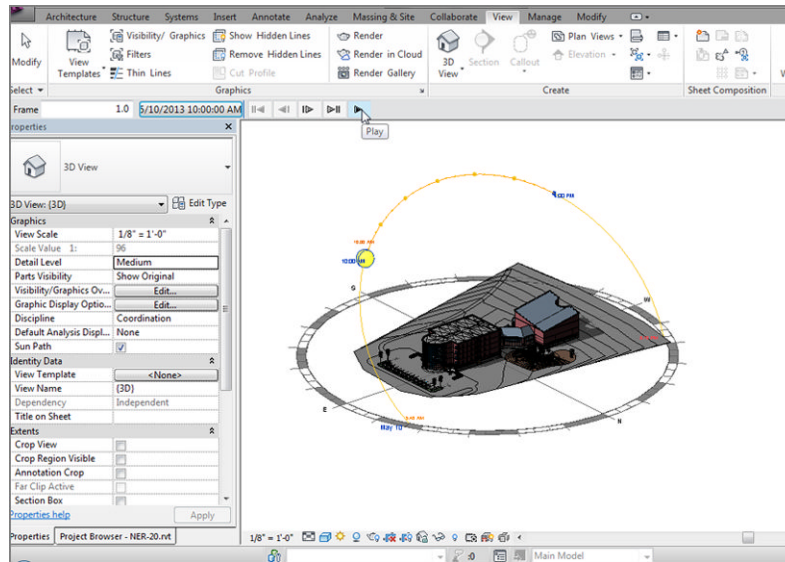

FIGURE 19.26: Clicking Play to start the solar study
12. On the Options bar, click the Play button, as shown in Figure 19.26.